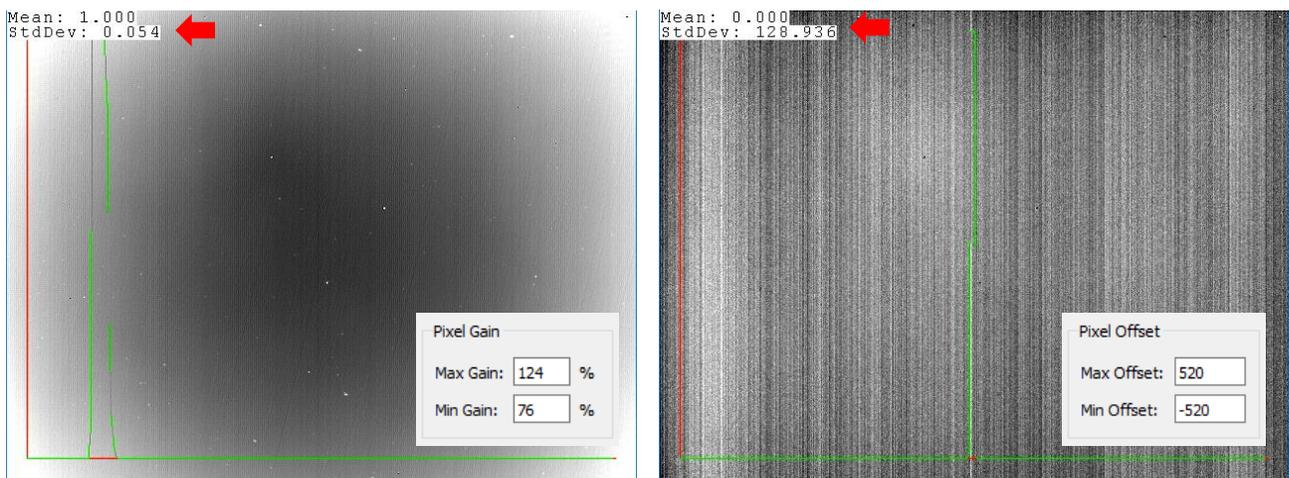

Figure 4: Fine Tuning Dead Pixel Replacement Parameters
The image will change to black and white. Numbers are shown in the upper left corner with a histogram drawn over the top of it. The histogram displays the statistical values of the image shown in Figure 4.
- For the example on the left shown in Figure 4, round up the standard deviation to .06 and multiply by 4. This results in 124% and 76% for the max and min *Pixel Gain* values, respectively.